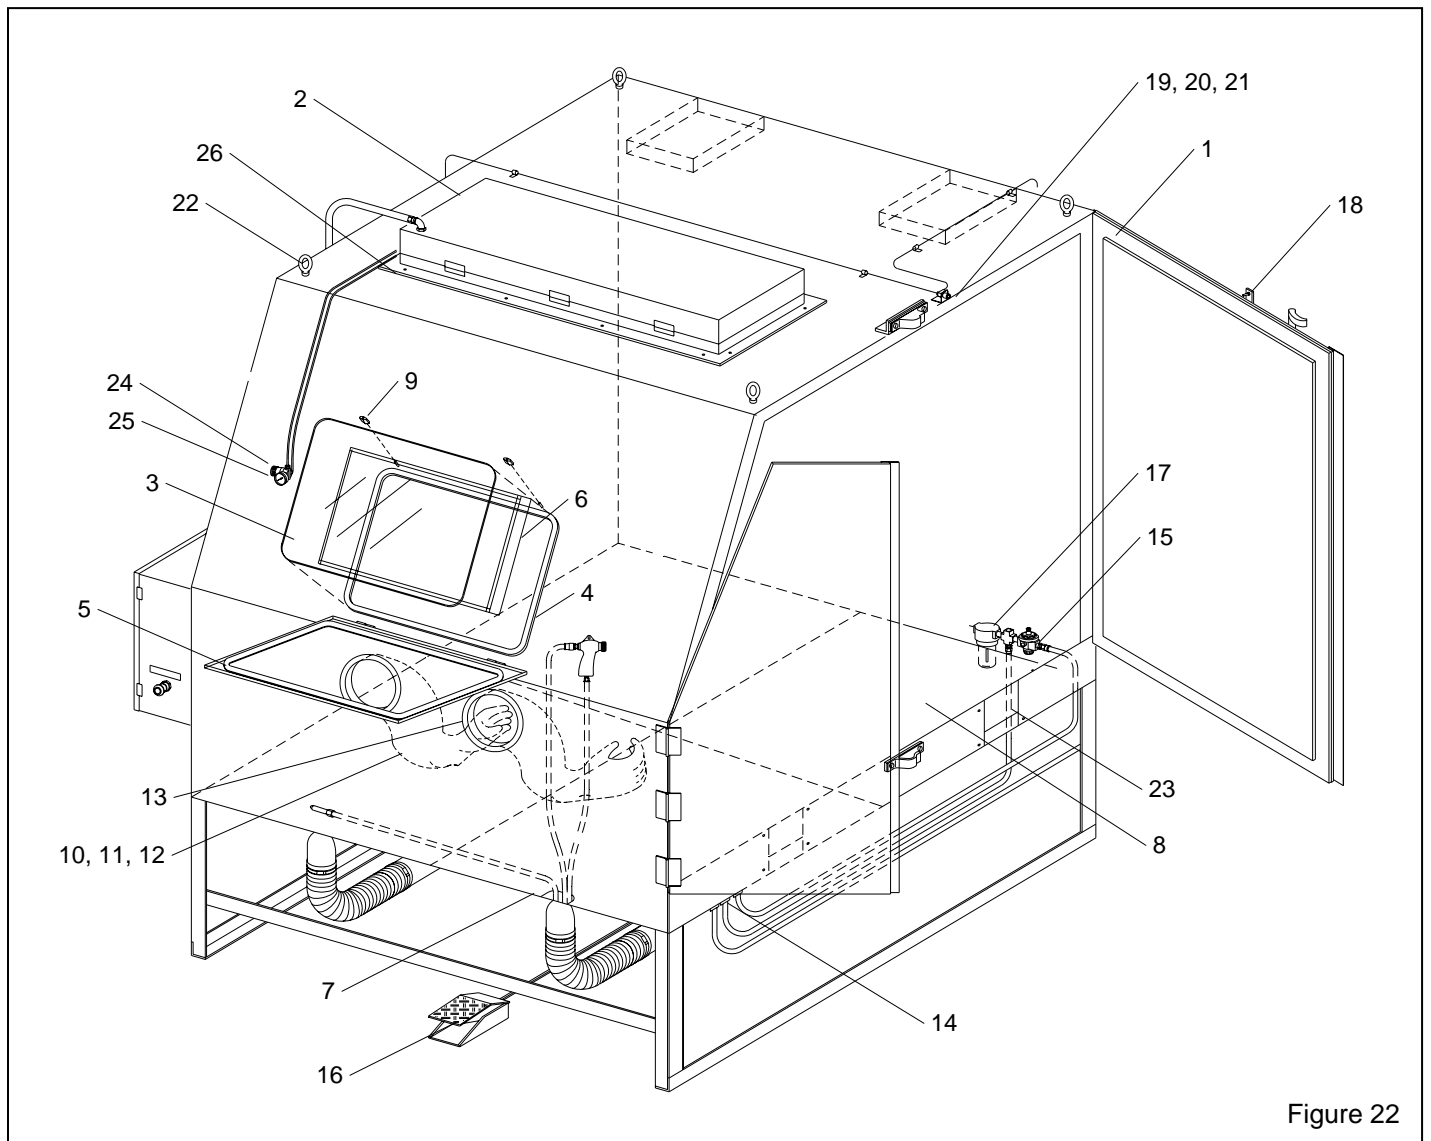

Figure 22
9.2 Cabinet Replacement Parts, Figure 22